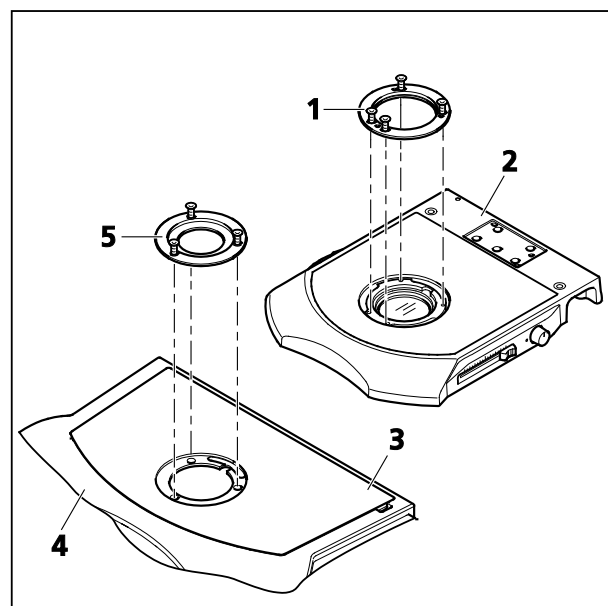

Fig. 13 Mounting adapter 84/120 or 84+120
- Remove the three short socket head screws (SW 3) from the insert plate (Fig. 13/3) of stand base 450 (Fig. 13/4).
- Screw on adapter 84/120 (Fig. 13/5) with the three longer socket head screws through the insert plate and hand-tighten.
- Screw adapter 84/120 (Fig. 13/5) directly to the base 300 for reflected light or adapter 84+120 (Fig. 13/5) to transillumination base 300 (Fig. 13/2) and hand-tighten.